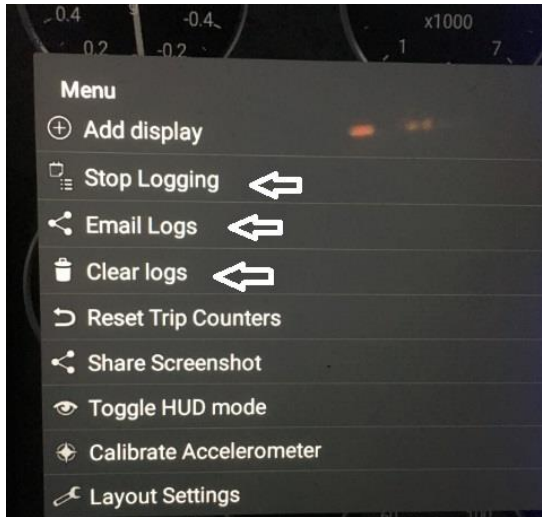

Figure 17, Stop Logging
8. Select the **Stop Logging** Button to Disable/Stop the log function, and the button will return to its default state of **Start Logging** (See Figure 17).